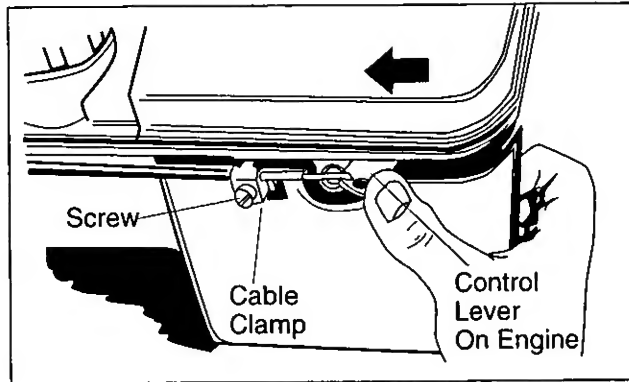

Figure 9
- Remove the screw shown in Figure 9. Remove the cable clamp from the cable.